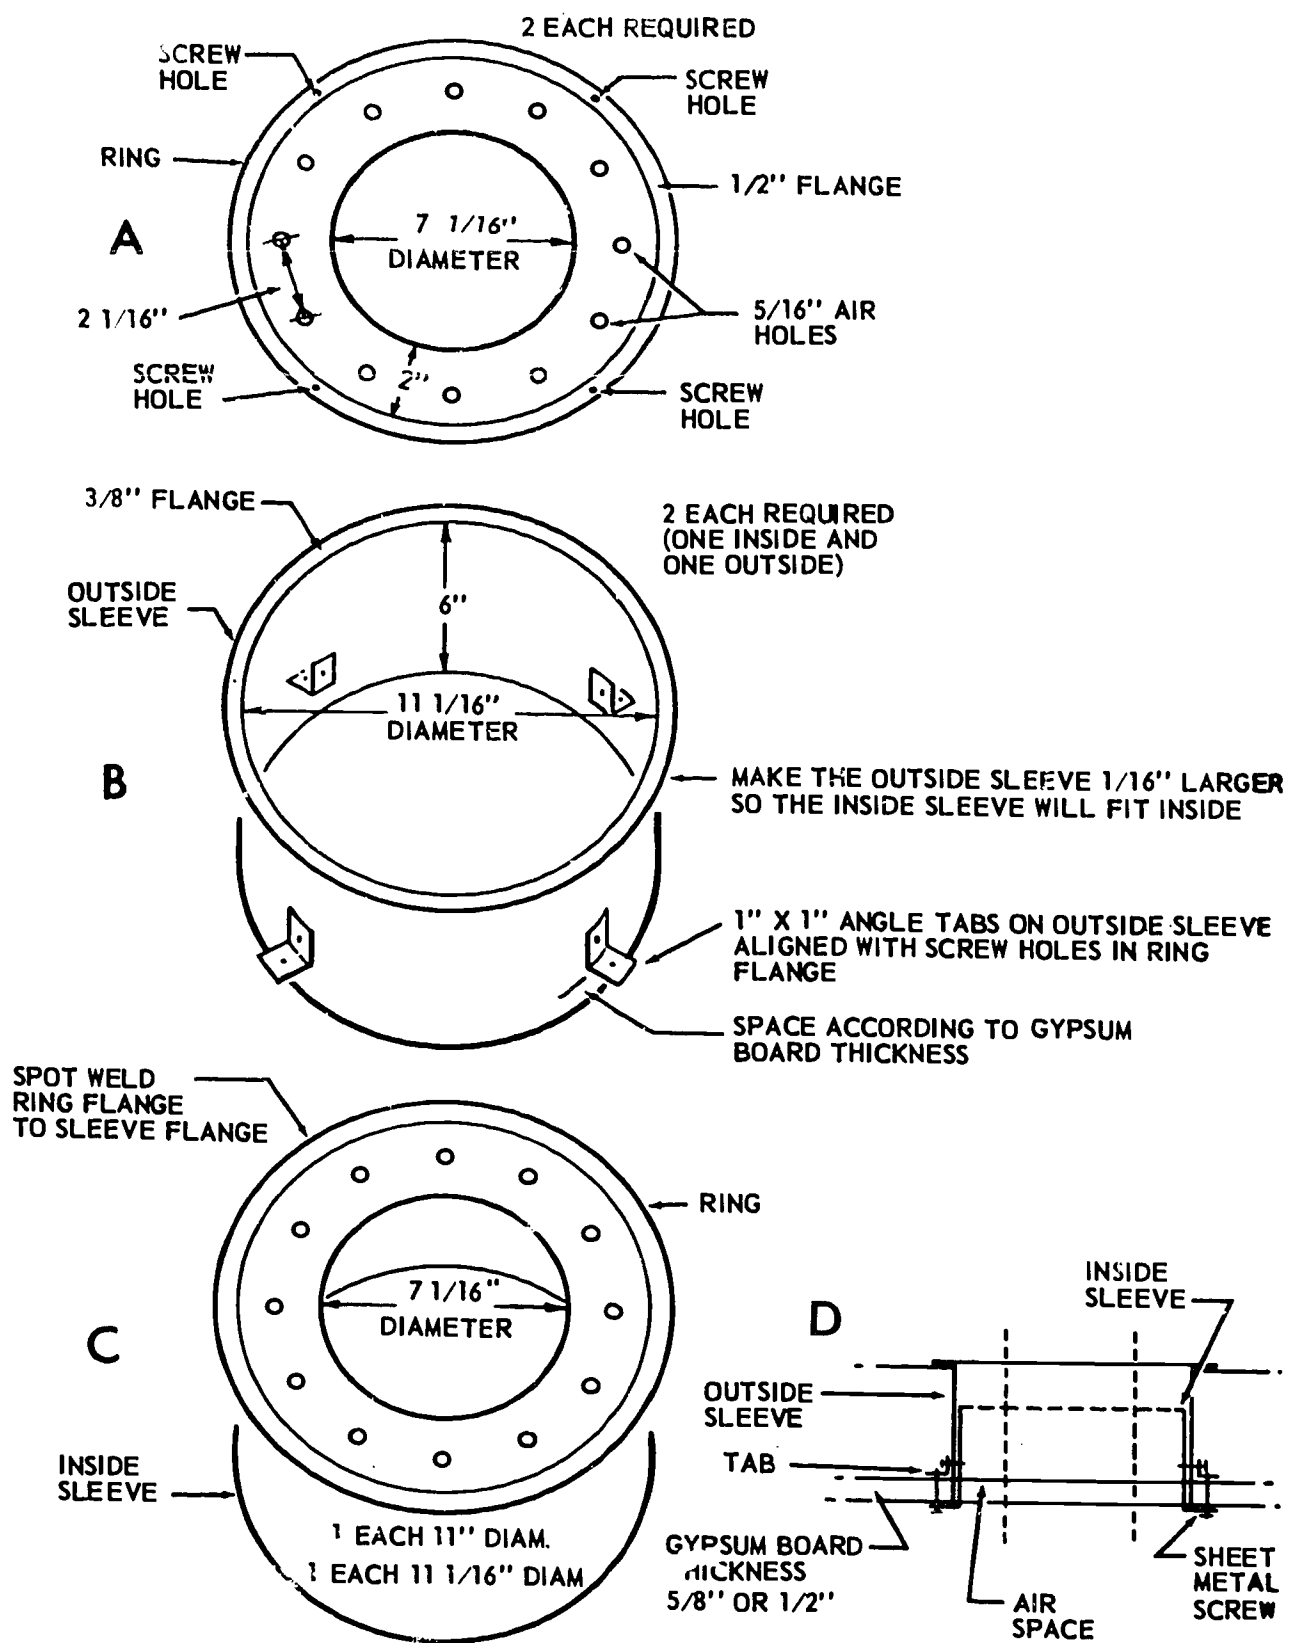
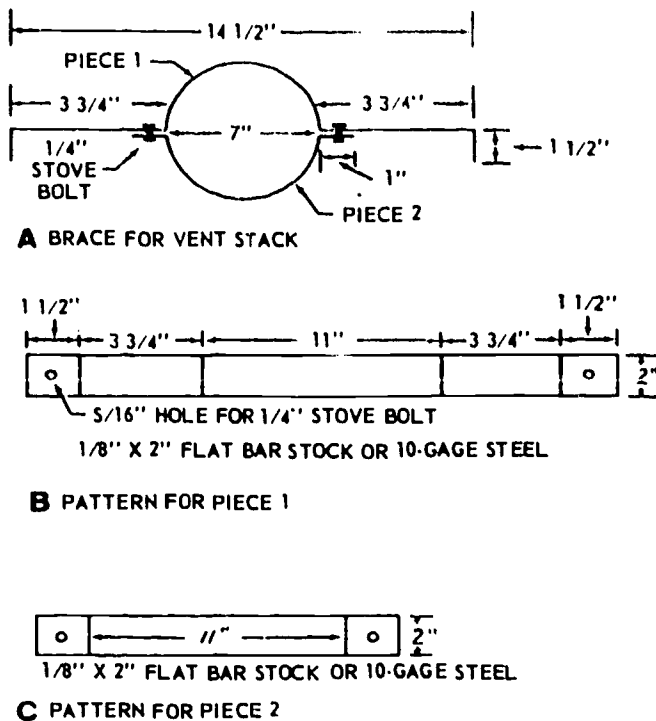

Figure 5-11. Thimble fabrication.
Figure 5-12. Making a brace for a vent stack.
**Pattern for a ceiling thimble.** The ceiling thimble shown in foldout 2 and figure 5-2 should be purchased "ready made," though you may be required to make one. The ceiling thimble shown in the foldout permits the heating unit stack to run through the ceiling. The same type of thimble can be used to run a stack through a wall. Steps in fabricating a ceiling thimble are shown in figure 5-11. To fabricate this type of thimble, make two rings, as shown in view A. The inside hole of the ring should be 7 1/16 inches in diameter so that a stack with a 7-inch diameter can pass through the opening. A 2-inch airspace is needed between the stack and sleeves, as shown in view D. Add a 1/2-inch flange to the ring
Two sleeves for the thimble are made as shown in views B and D of figure 5-11. Note that you add tabs to the outside sleeves only. Spot-weld or rivet the tabs to the sleeve and space them to match the screw holes in the ring. Set the tabs back from the flange of the sleeve for 5/8 inch or 1/2 inch, according to the thickness of the gypsum board used in the ceiling. Make the diameter of the outside sleeve 1/16 inch larger than the diameter of the inside sleeve so that the inside sleeve will slide inside the outside sleeve. Both sleeves should be 6 inches long. Turn a 3/8 inch-flange on one end of each sleeve so that you can spot-weld the flange to the ring. View C in figure 5-11 shows how the inside sleeve should look when completed. When it is installed, the position of the ceiling thimble is like view D in figure 5-11.
**Pattern for a vent stack brace.** The next part of the vent stack assembly is the brace, shown in foldout 2 and figure 5-12. You make the brace in two pieces from 1/8 x 2-inch flat bar stock or 10-gage steel. The length of the brace should be  $14\frac{1}{2}$  inches if the rafters are located on 16-inch centers. Since the outside diameter
The pattern for piece 1 of the brace, shown in view B of figure 5-12, is made of flat bar stock. Use a vise to make the 90° bends, and use a slip roll machine to form an 11-inch half-round radius bend. You can use a heavy-duty brace and wire bender, if available, to form the 90° bends. You form piece 2 in the same way as piece 1 without as many 90° bends. After you complete the bending process for both pieces, drill four 5/16-inch holes with a drill press.
Cut the patterns for the pieces shown in figure 5-11 with ring and circle shears and squaring shears. The patterns illustrated in figure 5-12 do not require cutting, except for length, if you are using 1/8-inch x 2-inch flat bar stock. If the bar stock is not available, use power squaring shears to cut the 10 gage metal.
When the roof jack is in place and the ceiling thimble is installed (see view D, fig. 5-11) place the double-wall stack over the collar outlet of the heating unit. Install the inside sleeve in the ceiling outlet (11 -inch hole) from the bottom, and install the outside sleeve from the top. Align the outside sleeve tabs with the screw holes of the ring on the inside sleeve. Drill screw holes in the tabs so that you can use sheet metal screws to secure the thimble to the ceiling.